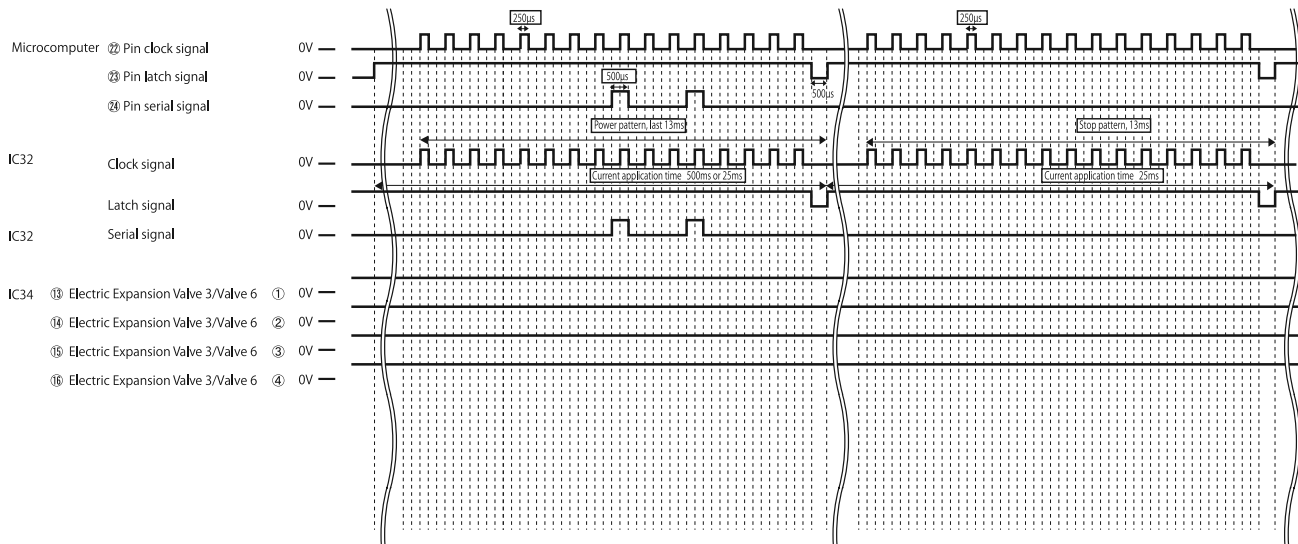

Fig. 5-3 Time Chart
- An example of circuit operation when an expansion valve is powered is shown in the time chart in Fig. 5-3.
- ① A clock signal (16 cycles at 750μs/cycle) is output from pin ⑫ on the microcomputer. (One cycle for the clock signal is 500μs off, 250μs on.)
- ② A serial signal #1 of the power pattern is synced with the clock signal and output from pin ⑭ of the microcomputer. #1 The serial signal is the pattern of the current applied to phase 1 or phase 2 of a 4-phase wound wire on an expansion valve, that has then been converted to serial format. A serial signal is output so that the center of the ON serial signal (Hi-level 500μs) aligns with the rising edge of the clock signal.